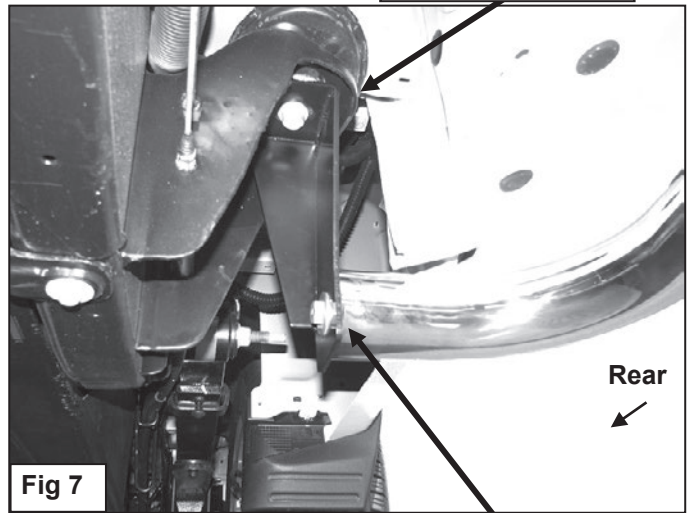

Fig 7
4. Move toward the rear of the vehicle. Select the driver side Rear Mounting Bracket, (**Figure 4**). Bolt the rear Mounting Bracket in place as previously described in **Step 2, (Figure 7)**.